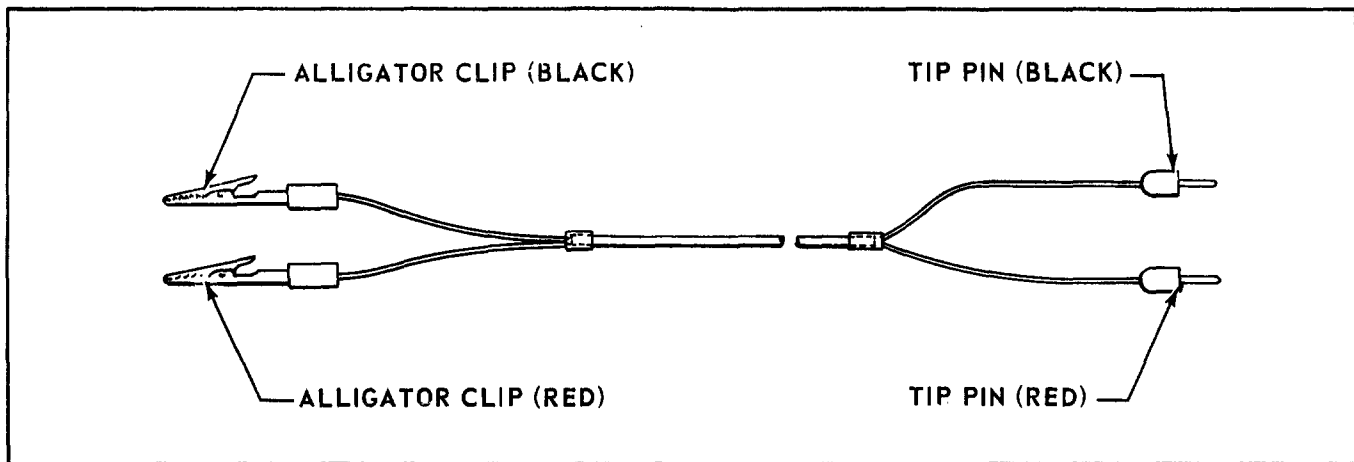

Figure 5-5. Radio Coupler Power Cable
20. Find the RADIO COUPLER POWER CABLE with the RED and BLACK alligator clips on one end. (Refer to Figure 5-5.) Plug the RED and BLACK MALE PLUGS of the Coupler Test Box Power Cable into the red and black female receptacles located on the face of the Radio Coupler Test Box LABELED DC INPUT.
44. Find six adjustment potentiometers located on the front of the console and directly under the trim meter. (Refer to Figure 5-5.) While holding IN the RED BUTTON on rear of radio coupler, insert small slot head screwdriver in SECOND HOLE FROM LEFT and adjust roll centering adjustment until needle of voltmeter of Power Section Test Box centers and holds on ZERO. If unable to adjust needle to ZERO by rotating the adjustment screw, replace console.